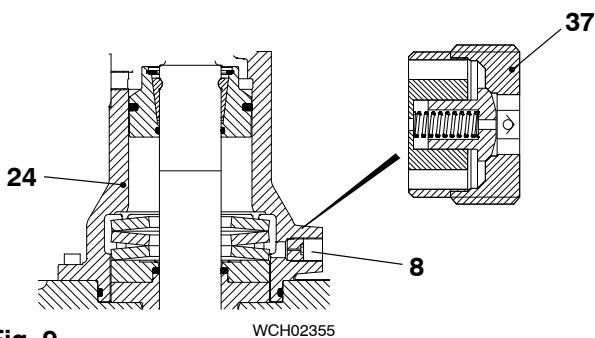

Fig. 9
- 1) Do a check of the non-return valve (37, Fig. 9) as follows:
- a) Remove the non-return valve (37) from the housing (24).
- 2) Install the non-return valve (37) to the housing (24).